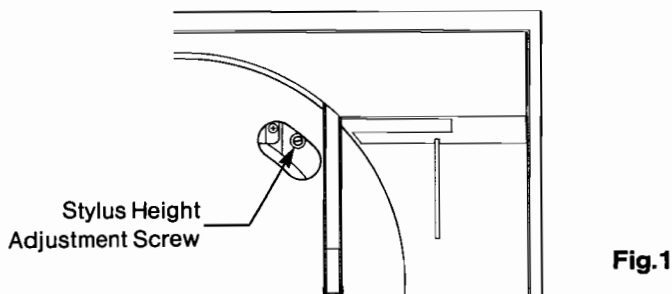

Fig.1
2. Press the ◀ button and move the tone arm so that the stylus height adjustment screw can be seen in the turntable aperture (see Fig.1).